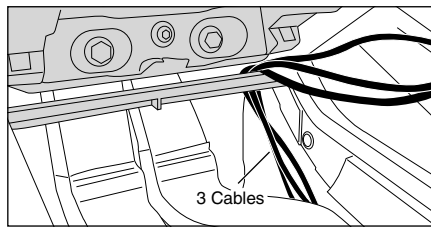

Figure 2 : Shows cover removed as in figure 1
- Lay the three cables to connect the gauge and the server as shown in Figure 2.
- Return the ashtray to its original position. (Pull the cables over toward the right side as shown in figure 2)